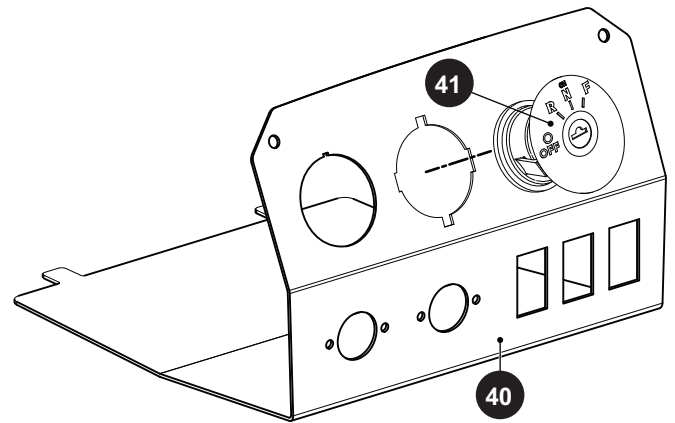

Fig. 15 Key Switch
5. Squeeze the tabs on the back side of the key switch (41) and push it through the front of the gauge panel (40) (Ref. Fig. 15).